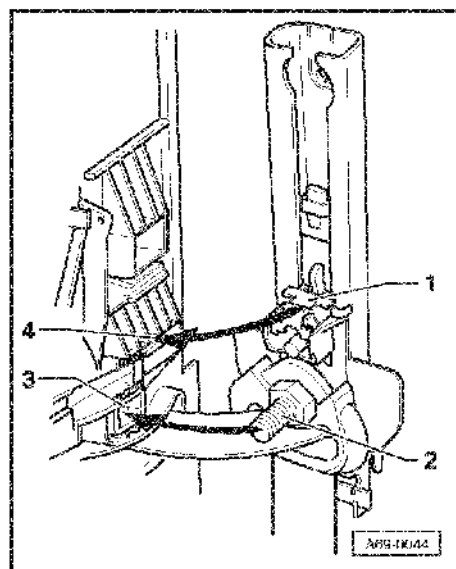

Fig.1 Installing upper B-pillar trim in belt height adjuster
◀ **Fig.1 Detaching tunnel brace**
- Insert height adjustment switch in height adjuster -5- => Fig. 1